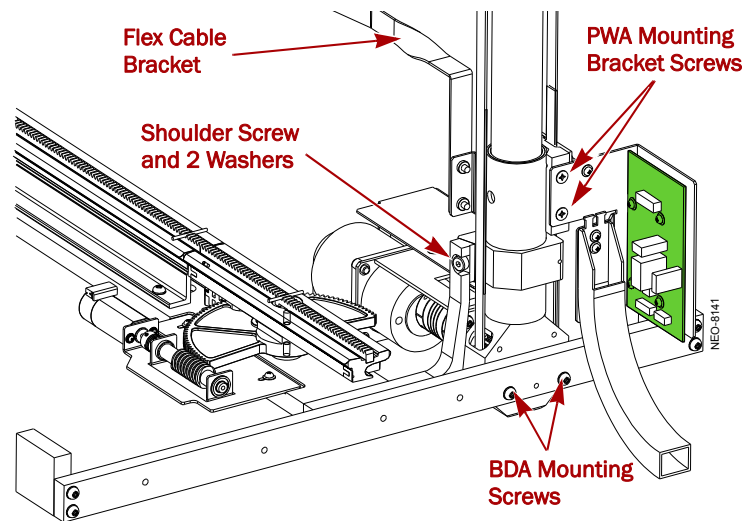

Figure 3-10: Reinstall Track Assembly to New Rear BDA
- c. Using the 1/8-inch hex key and the new screw and washers, reattach the **track assembly bracket** to the BDA (Figure 3-10).